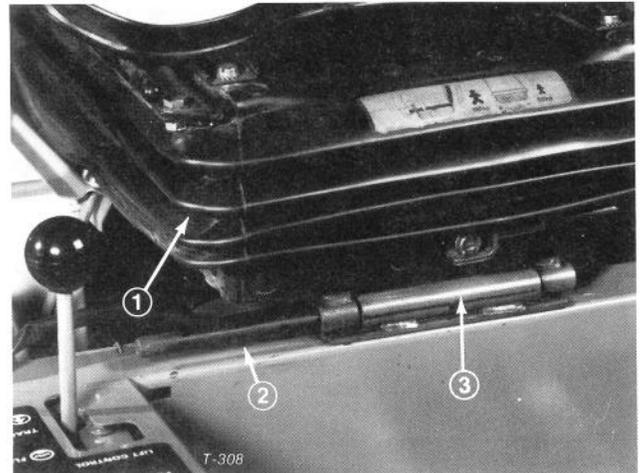

Figure 10
5. Unsnap rubber bellows and mount seat suspension to seat support with (4) capscrows, lockwashers and nuts. Resnap bellows in place.
6. Install seat suspension and seat support to unit with pivot shaft and roll pin (Fig. 10).